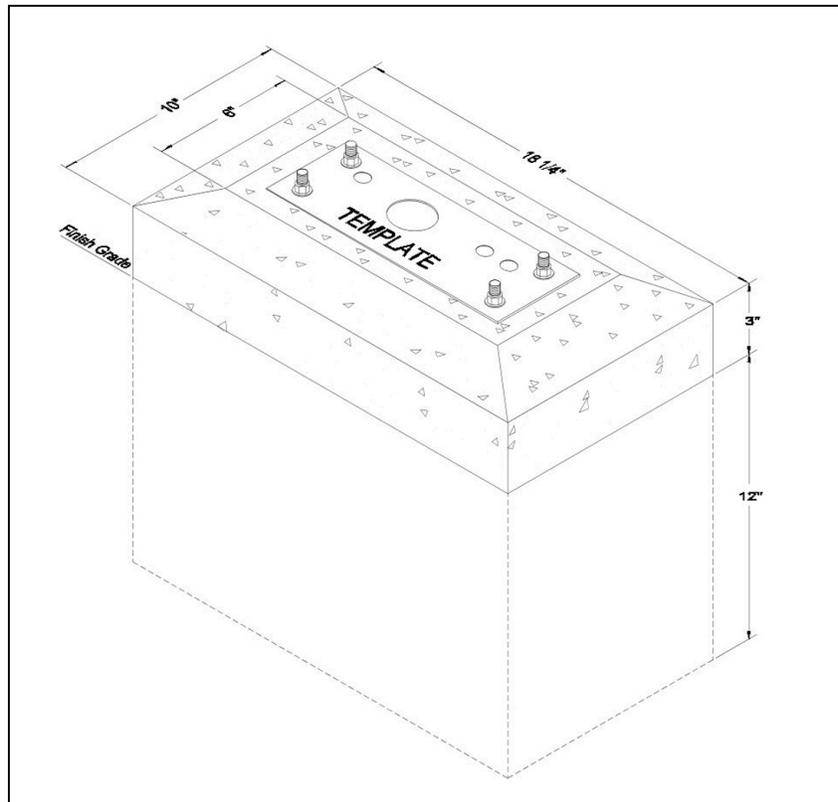

Figure 2
Step 3 – Install a concrete form to the dimensions shown in Figure 2. Remove any excess soil within this form as needed.